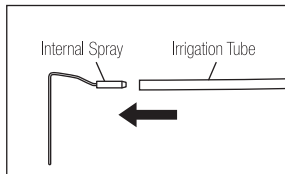

Fig. 7
2) Connect the Irrigation Tube to the Internal Spray Nozzle firmly. (Fig.7)